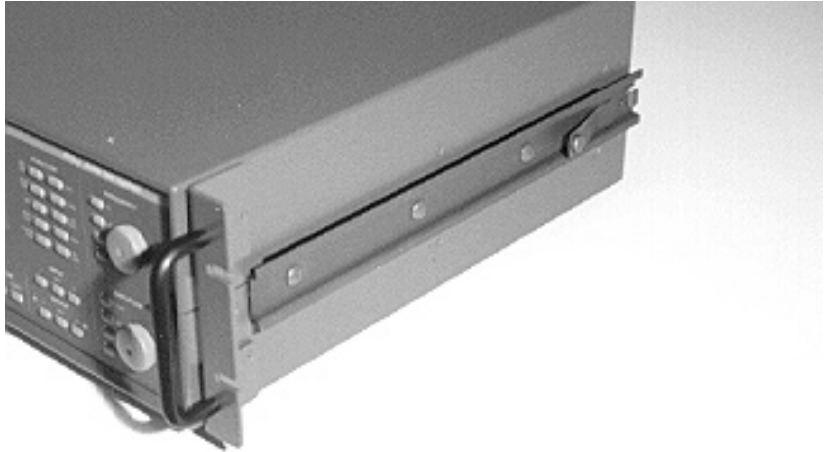

Figure B-4. Slide rack mounting hardware in place
- f. Align and secure (with three #10-32 screws) the fixed portion of the Chassis Trak rack mount kit to the chassis, sandwiching the spacer between. See Figure B-4.
- g. Mount the right-hand rack ear bracket, using two #6-32 screws. Note that the right-hand and left-hand rack ear brackets are not identical, the cutpout portion of the proper bracket clears the fixed slide mounted in the previous step. See Figure B-4.